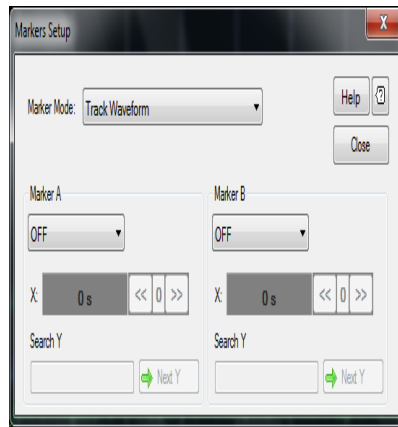

Figure 2-125 Markers dialog
- 2 The Markers dialog is displayed as shown in Figure 2-125.